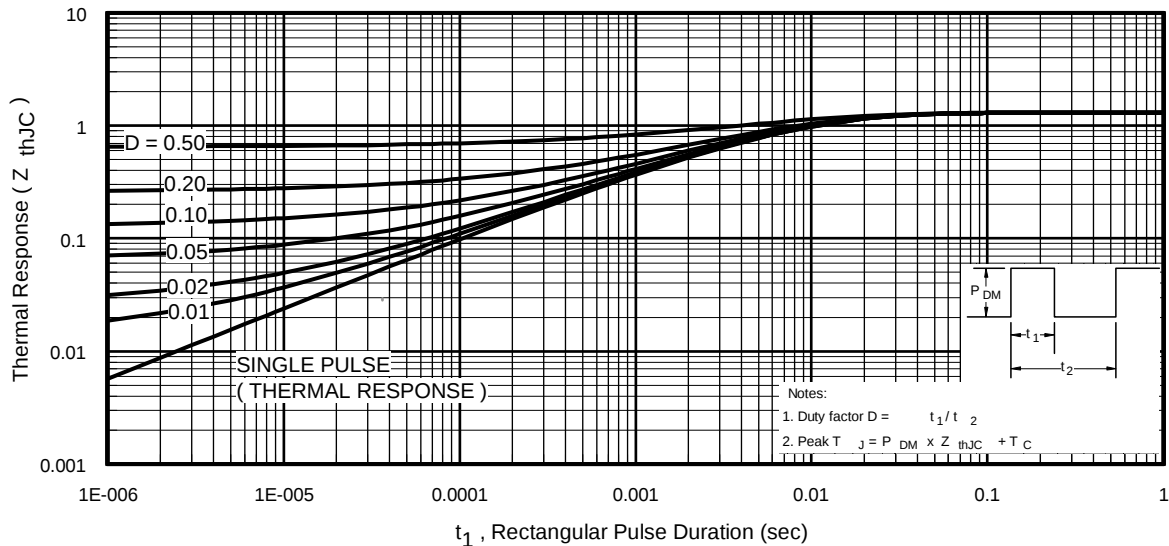

Fig 11. Maximum Effective Transient Thermal Impedance, Junction-to-Case
$Z_{thJC}(D, t_{av})$ = Transient thermal resistance, see figure 11)
- ① Repetitive rating; pulse width limited by max. junction temperature. (See fig. 11).
- ② Limited by T_{Jmax} , starting $T_J = 25^\circ\text{C}$, $L = 0.71\text{mH}$, $R_G = 25\Omega$, $I_{AS} = 23\text{A}$, $V_{GS} = 10\text{V}$. Part not recommended for use above this value.
- ③ $I_{SD} \leq 23\text{A}$, $di/dt \leq 400\text{A}/\mu\text{s}$, $V_{DD} \leq V_{(BR)DSS}$, $T_J \leq 175^\circ\text{C}$.
- ④ Pulse width $\leq 1.0\text{ms}$; duty cycle $\leq 2\%$.
- ⑤ C_{oss} eff. is a fixed capacitance that gives the same charging time as C_{oss} while V_{DS} is rising from 0 to 80% V_{DSS} .